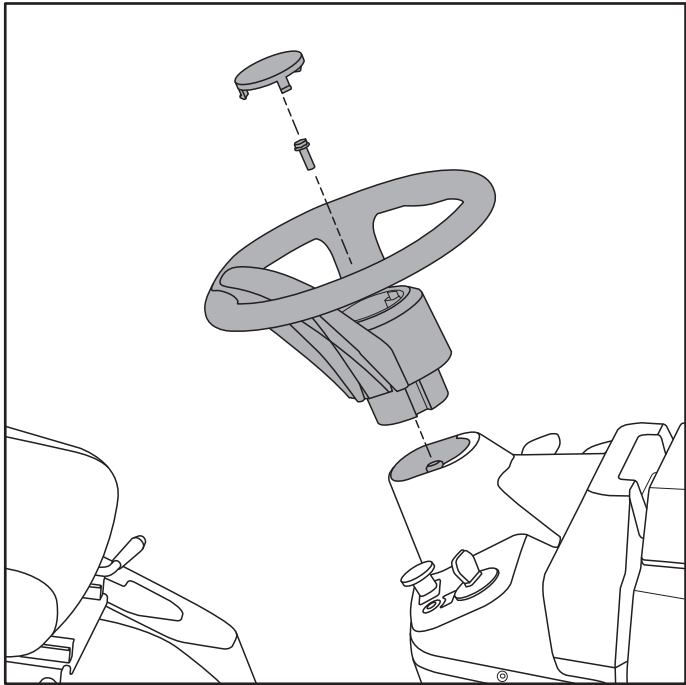

Fig. 6
1. Align the steering wheel with the steering shaft, slide the steering wheel down the shaft until into position, and secure the steering wheel with the bolt provided.(Fig. 6)